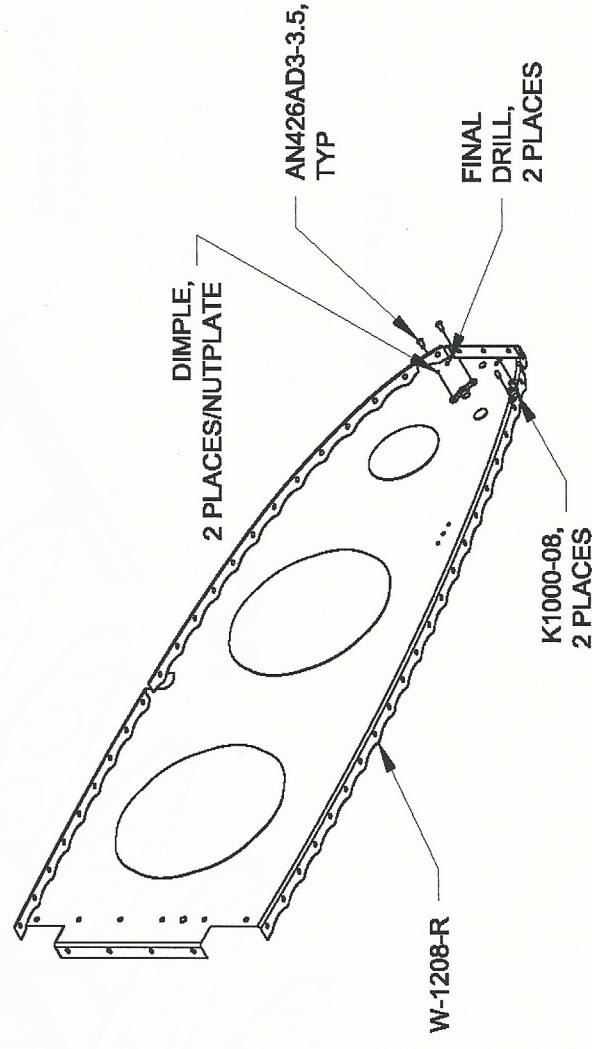

FIGURE 5: ADDING THE NUTPLATES TO UNTRIMMED NOSE RIB
Step 10: Select one of the three untrimmed W-1208-R Nose Ribs and dimple the rivet hole locations for the two forward nutplates as shown in Figure 5. Final-Drill #19 the center nutplate holes. Dimple then install two nutplates on the nose rib as shown in Figure 5.